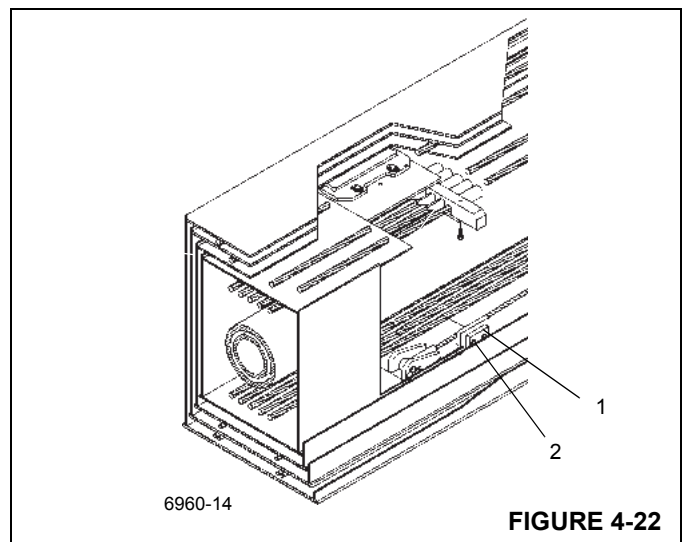

FIGURE 4-22
6. Install the lower rear side wear pads and shims (1) on the fly section with two cap screws (2) each (Figure 4-22).